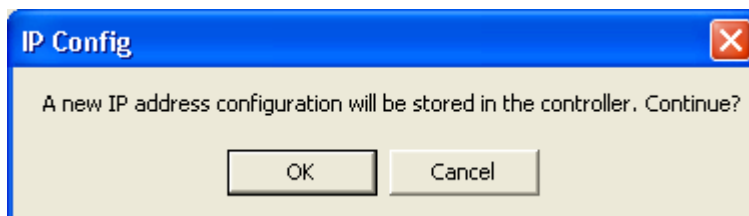

Figure 56. IP Config confirmation dialog window.
- Click **Set IP**. The new address will be sent to the PLC and an IP Config window opens, see Figure 56.